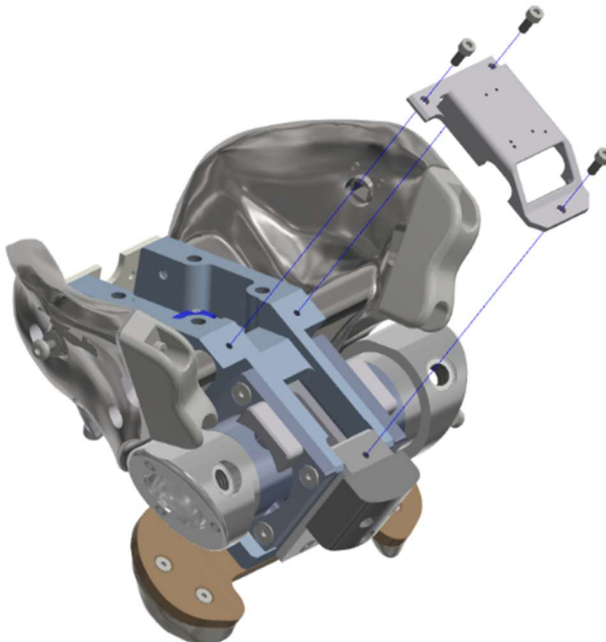

Figure 8-45. Install the Pelvis Cable Cover (474-4010) to the Center Pelvic Bone (474-4541) and route wires accordingly
8.3.15 Install the Pelvis Cable Cover (474-4010) to the Center Pelvic Bone (474-4541) with three M4 X 0.7 X 10 LG. SHCS. The wires from the Acetabulum and ASIS load cells are routed under the left and right sides of the Pelvis Cable Cover and exit under the rear of the Pelvis Cable Cover (Figure 8-45). Strain relieve the ASIS and Acetabulum Load Cell wires according to Figure 8-46.